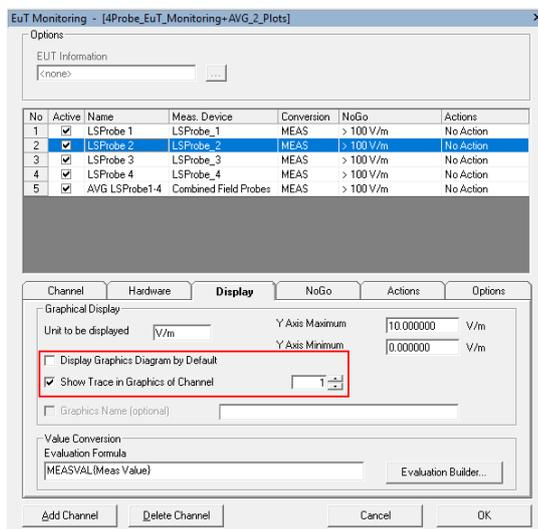

Figure 13: Plot all single field probe E-field values in single graph
- check Show Trace in Graphics Channel with channel 1 selected, see Figure 13